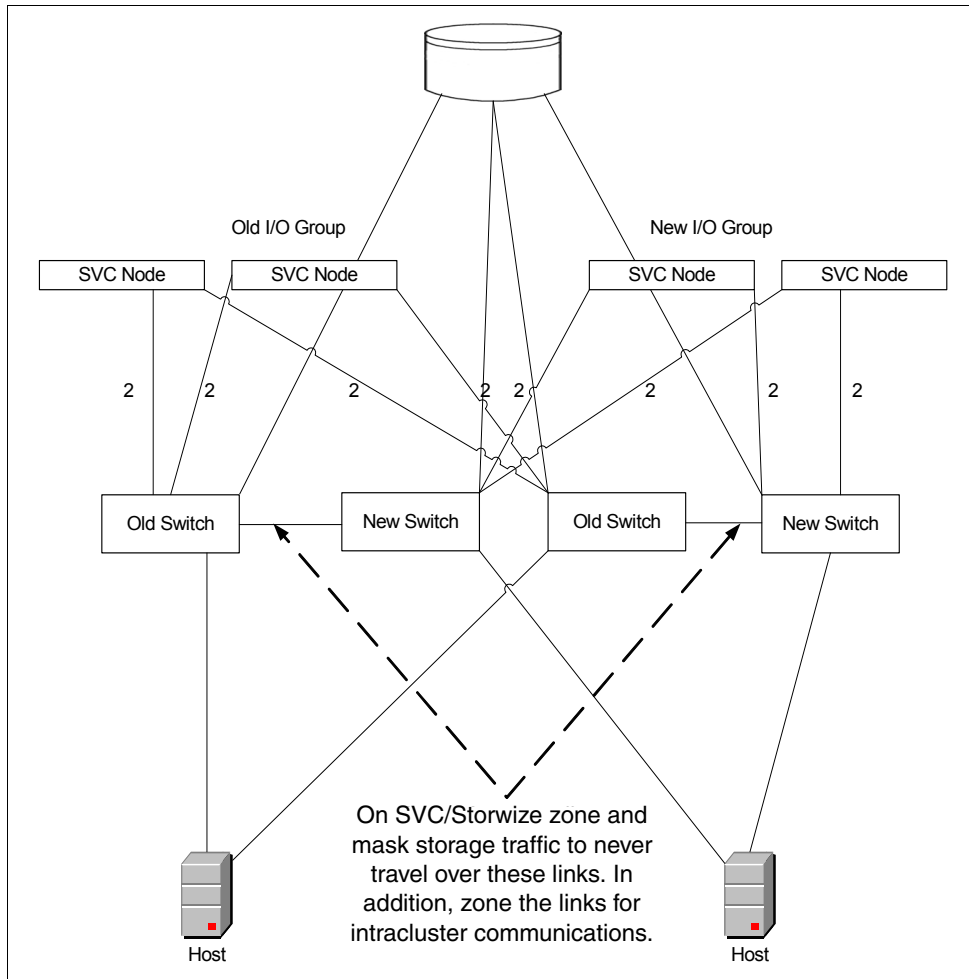

Figure 2-4 I/O group splitting
- ▶ Add a new switch and ISL to the new I/O group. The new switch is connected to the original switch, as shown in Figure 2-4 on page 26.